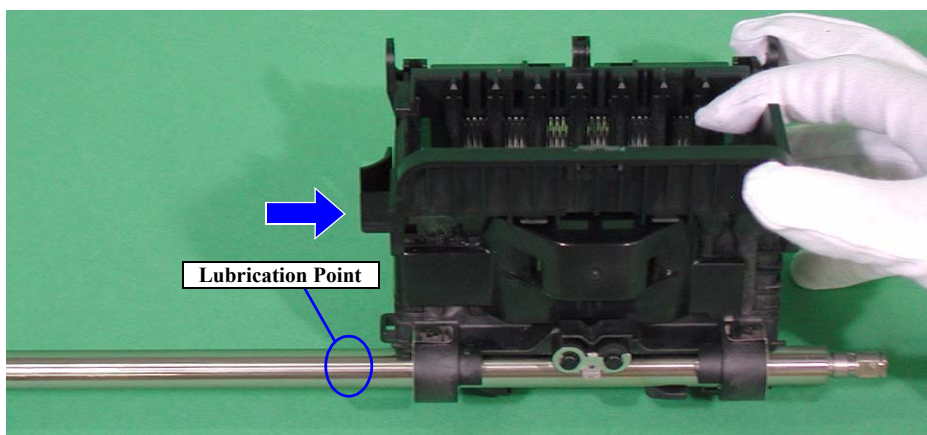

Figure 6-16. Carriage Shaft lubrication (3)
4. Move the Carriage Unit to the right end of the Carriage Shaft viewing the Unit from the rear, and lubricate the grease using a syringe at the point shown in Figure 6-16.